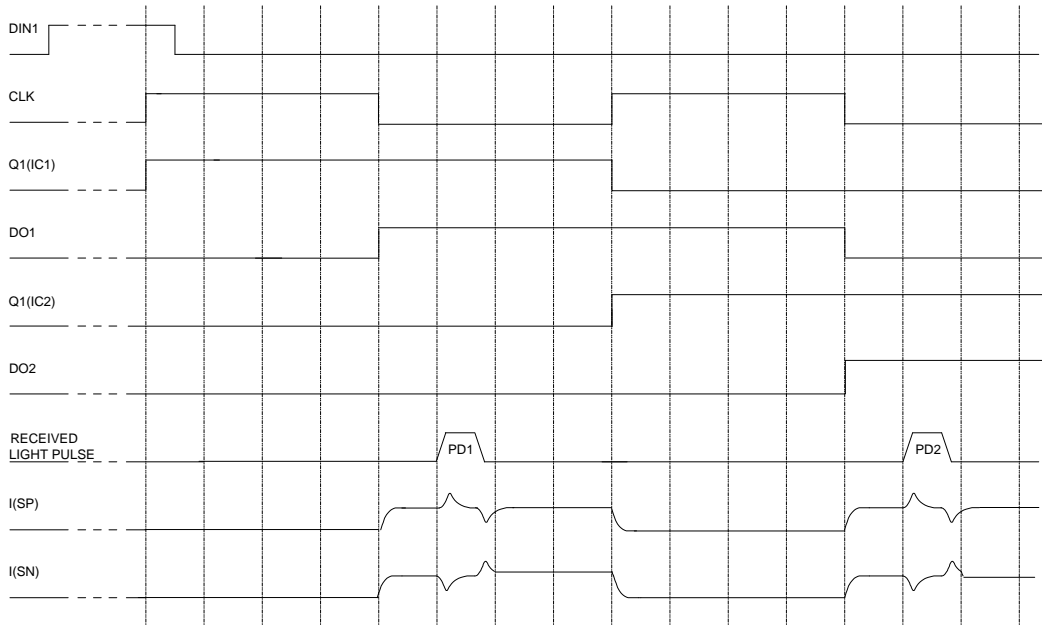

Figure 9: Signals for the chain configuration of Fig. 8
If current is drawn from PD (iC1) through a light pulse being detected by photo diode PD1, the currents at outputs SP and SN react as shown in Figure 9; I(SP) rises and returns to its initial value within a time con-